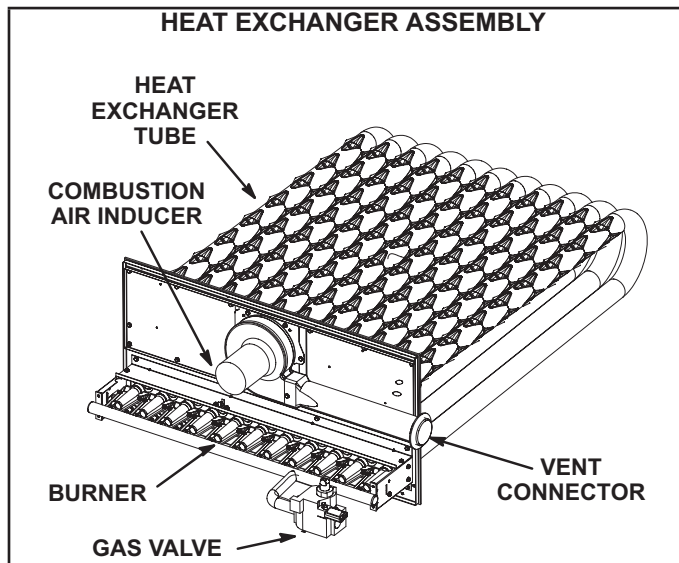

FIGURE 24
- 3 - Remove and retain screws securing combustion air inducer to flue box. Remove vent connector. See FIGURE 24.